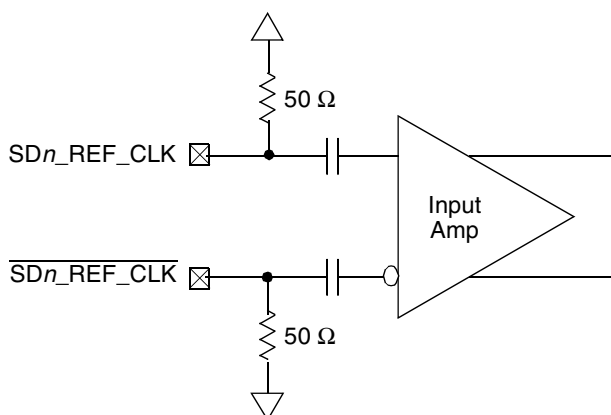

Figure 49. Receiver of SerDes Reference Clocks
Figure 49 shows a receiver reference diagram of the SerDes reference clocks.
- The $\overline{SDn_REF_CLK}$ and SDn_REF_CLK are internally AC-coupled differential inputs as shown in Figure 49. Each differential clock input ($\overline{SDn_REF_CLK}$ or SDn_REF_CLK) has a 50 Ω termination to SGND_SRDS_n (xcorevss) followed by on-chip AC-coupling.